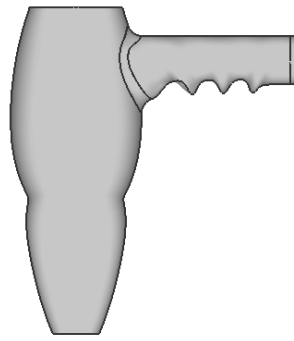

Figure 11-89 Model after turning the display of isoparametric curves off
4. Choose **WindowDisplay > Hardware Shade** from the menu bar; the model is shaded, as shown in Figure 11-89.